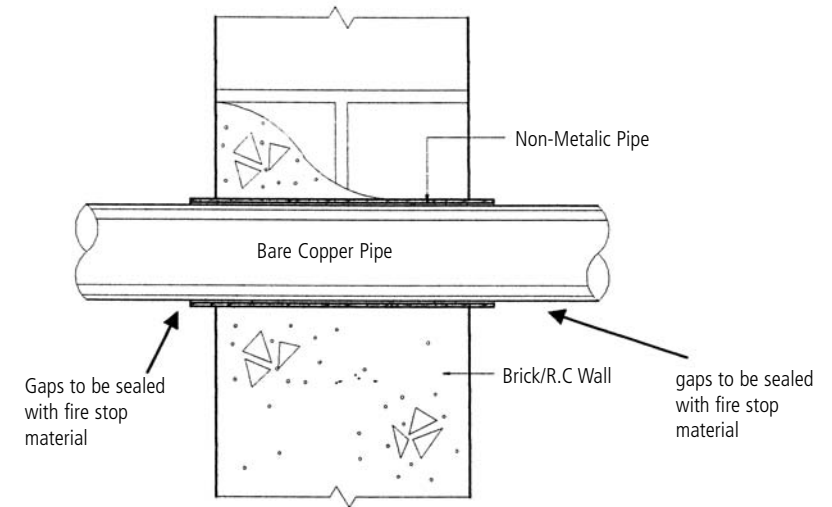

**FIG. 4 PIPING IN NON-FIRE RATED HOLLOW WALLS**
4.2.1 A galvanised sheet steel "striker" plate of no thinner than 1.2mm shall be fixed on both sides of the wall frame extending a minimum of 50mm beyond the location where the pipe passes through vertical or horizontal structural members. (Fig. 4)